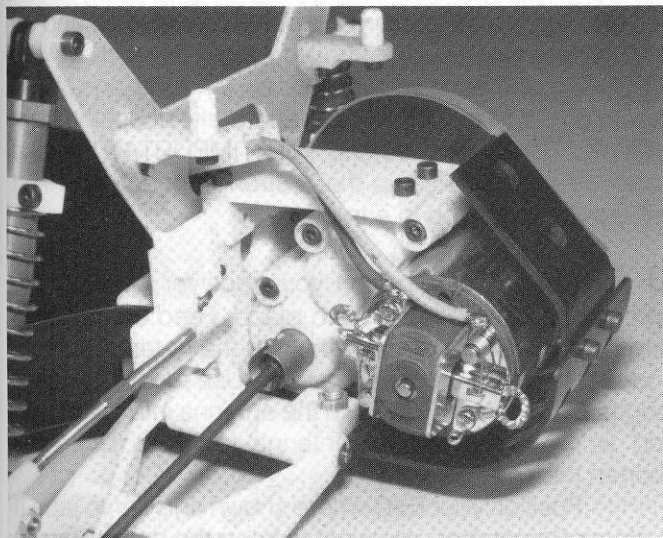

Fig. 140
□ **Figs. 140 & 141** Slip the motor in the motor mount and start the bottom screw in first. Do not tighten all the way down yet. On the top screw, put a washer on the screw and screw it in, but not tight. NOTE: Most motors are imported and use 3mm mounted screws, which are different from the rest of the fasteners in the kit. Make sure you do not mix them up.